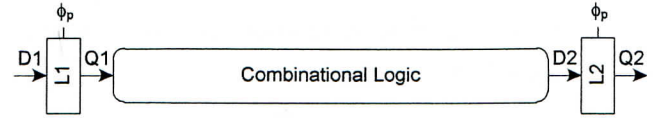

Fig. 4
- A sequential circuit using pulse latch is shown in Fig. 4. Assume the period of $clk = 10ns$, max data-to-q delay $t_{pdq} = 4ns$, max clk -to-q delay $t_{pcq} = 2ns$, setup time = 0.5ns. (5%)